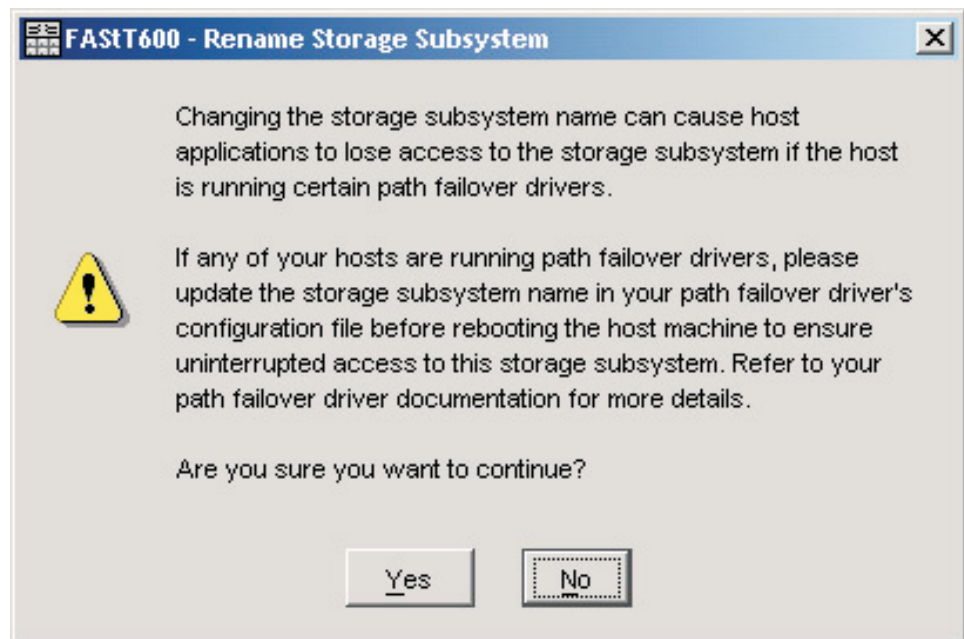

Figure 24. Rename Storage Subsystem window
3. Click **Storage Subsystem** → **Rename**. The Rename Storage Subsystem window opens as shown in Figure 24.